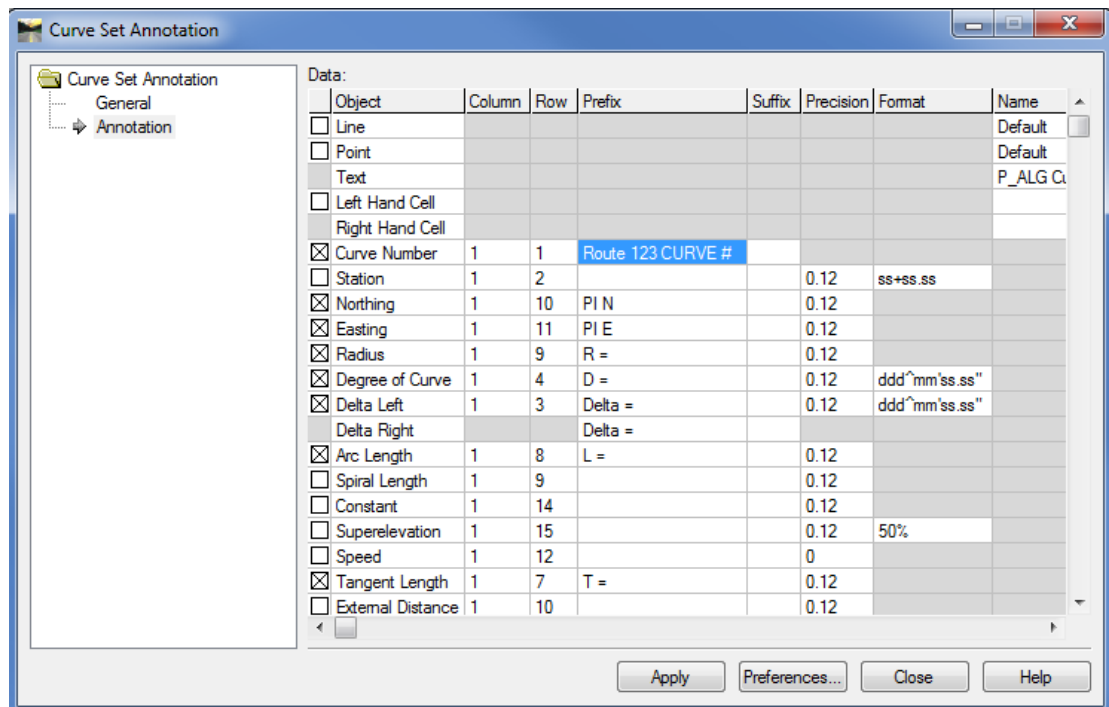

Figure 4-10 InRoads Curve Set Annotation Dialog Box
- C. Select **Annotation** (Figure 4-10). On the Curve Number line data point in Prefix before the word CURVE and type in the name of your Roadway (eg. Route 123).